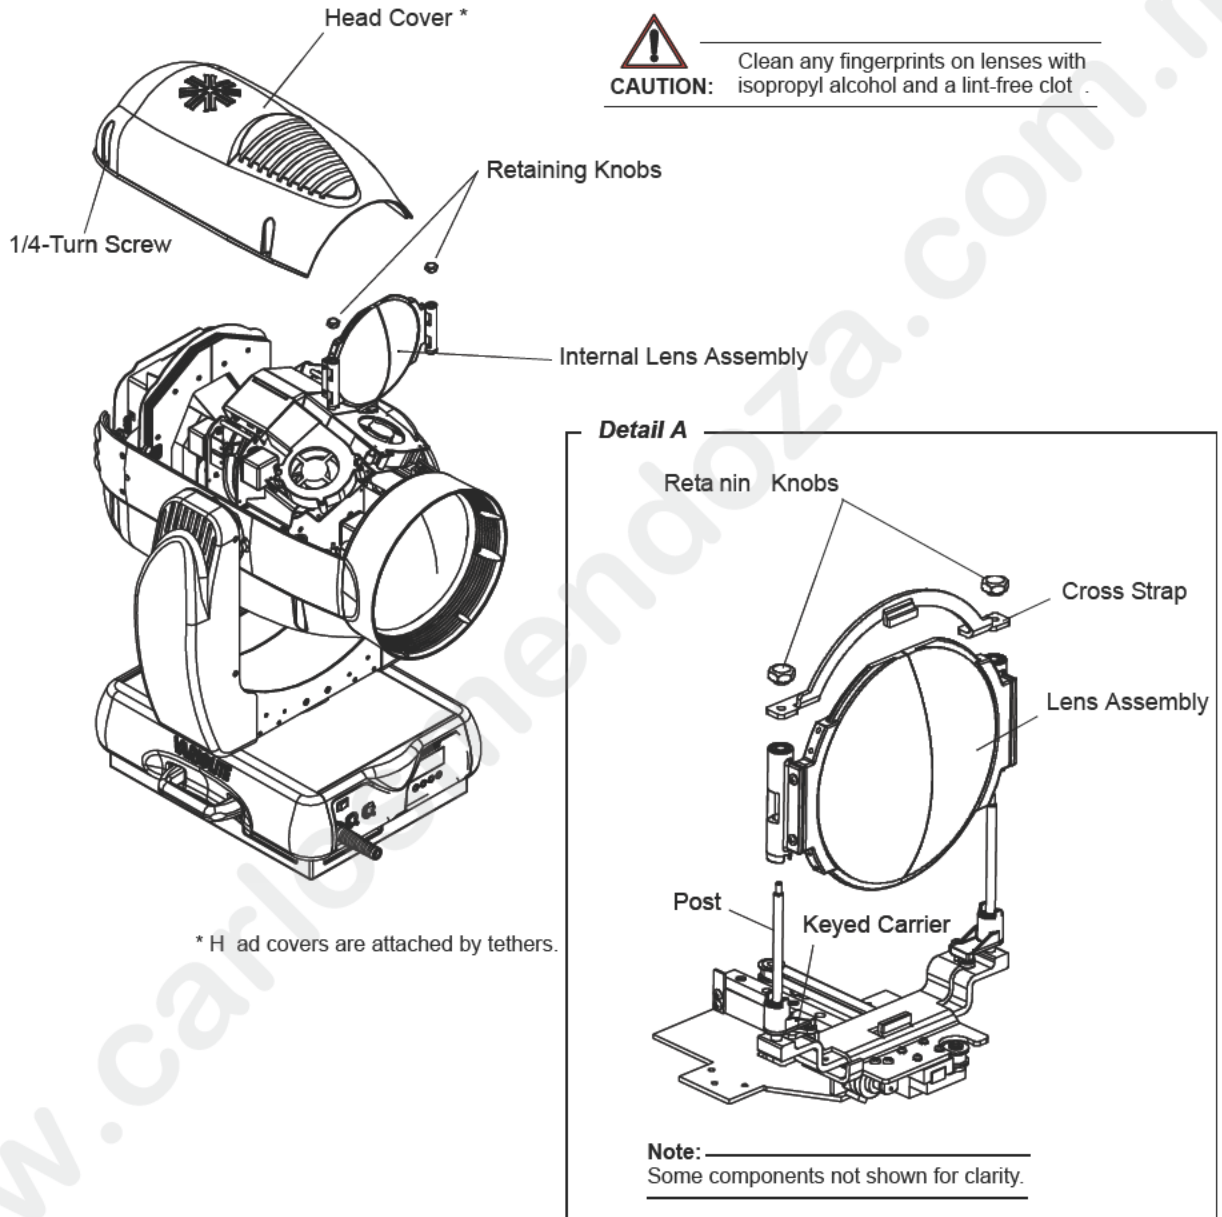

Figure A-3: Internal Lens Replacement
Step 3. As shown in Figure A-3, remove appropriate head cover by loosening four 1/4-turn screws.
**CAUTION:** As shown in **Detail A** in Figure A-3, insure that the lens assembly is aligned and fits properly into keyed carrier.
Step 2. Tilt the head to avoid uncontrolled movement. As shown in Figure A-3, remove front lens assembly by loosening four captive screws.